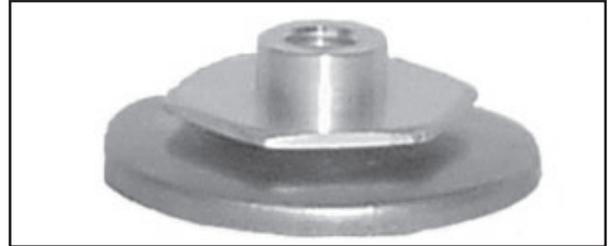
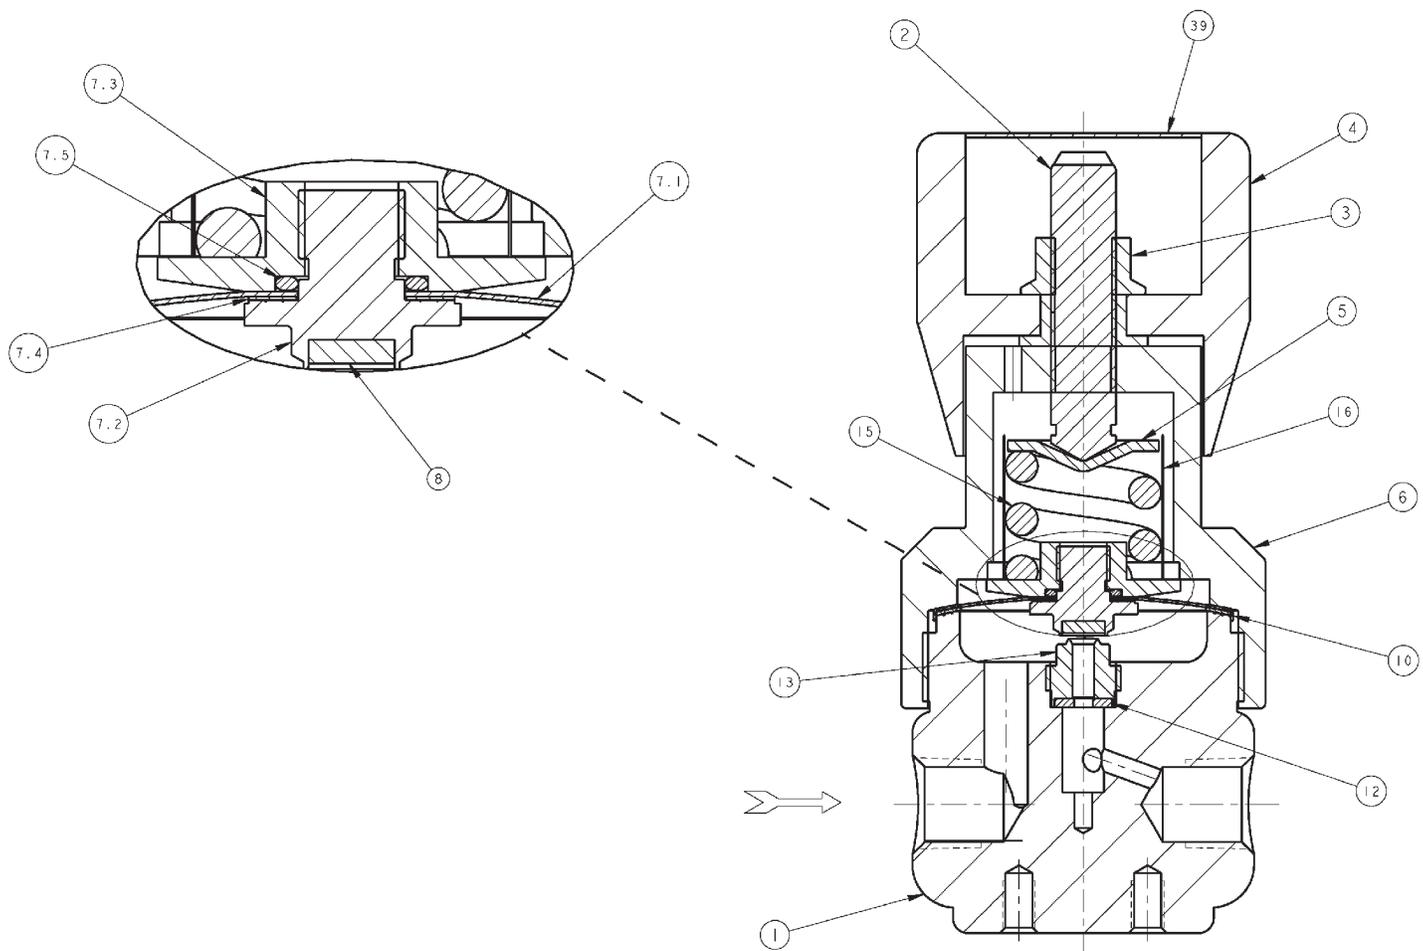

Figure 1: Diaphragm Subassembly
Figure 2: Model B2
8. Flow Direction: Install so the flow direction matches the inlet stamp on the main regulator body (1).
10. Basic Regulator - (Refer to Figure 2, Model B2): Regulator may be rotated around the pipe axis 360°. Recommended position is with knob (4) vertical upwards.
3. Refer to Figure 2 for Model B2 basic regulator and Figure 1 for the diaphragm subassembly.